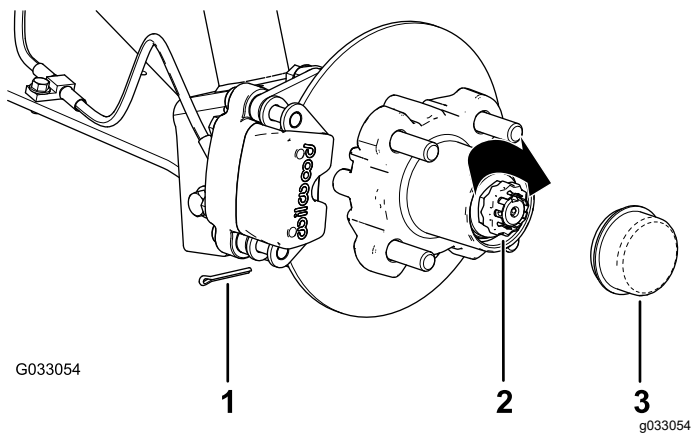

Figure 29
8. Install the retainer over the nut and check the alignment of the slot in the retainer and the hole in the spindle for the cotter pin (Figure 29).
9. Install the cotter pin and bend each legs around the retainer (Figure 29).
10. Install the dust cap onto the hub (Figure 29).